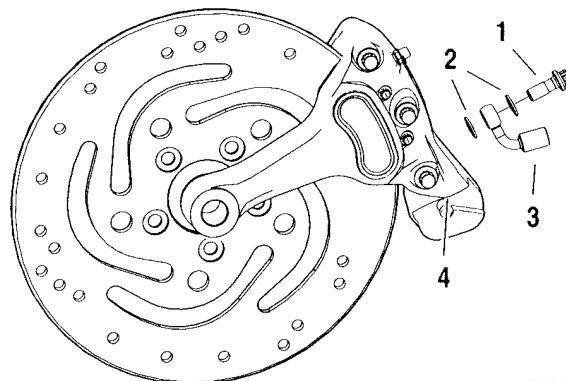

Figure 2-78. Rear Caliper Mount
2. See Figure 2-78. Remove the banjo bolt (1) and both steel/rubber washers (2) to detach rear brake line (3) from caliper. Discard washers.
4. Lift rear caliper away from axle and rear fork. Notch (4) in caliper mount must clear tab on rear fork.
1. See Figure 2-78. Place caliper on rear axle with notch (4) inside rear fork tab. Verify that the rubber bumper is contacting the underside of the caliper mount for the full length of the bumper. Install rear axle and check drive belt tension. See 2.5 REAR WHEEL.